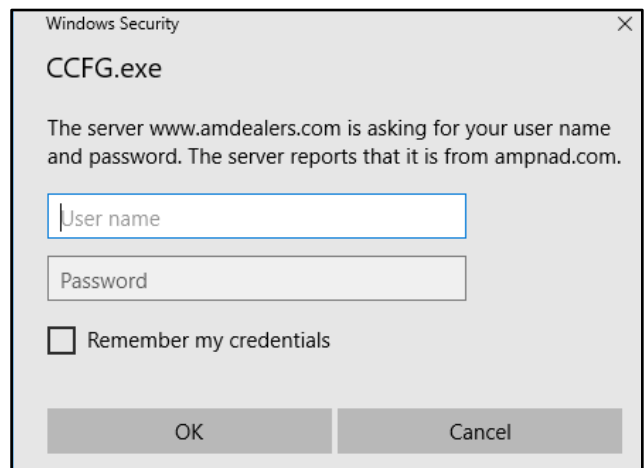

Figure 3
- Log in to the amdealers.com portal (refer to Figure 3).